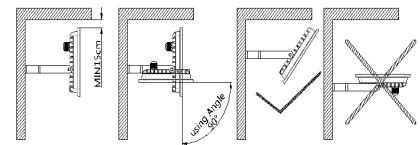

Fig. 1
5. Do not mount on a surface prone to vibrations (fig. 1)